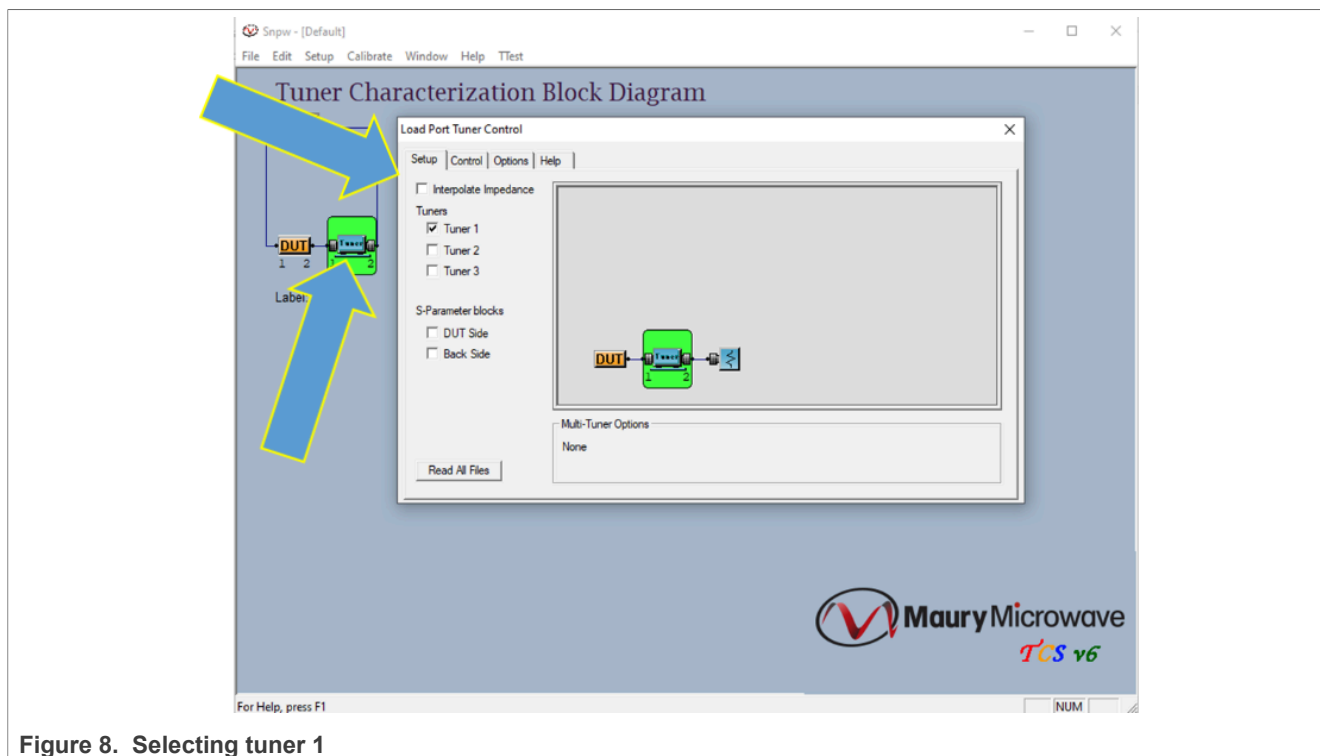

Figure 8. Selecting tuner 1
1. Click the green tuner box as shown in Figure 8.